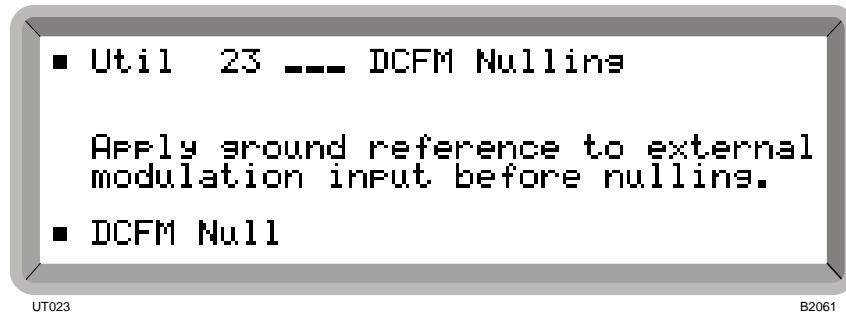

Fig. 4-34 DCFM nulling display
- (1) First of all select external FM from *Util 20: Modulation Mode (Normal)*. Then select *DC* coupling from *Util 30: Modulation Source*.
- (2) Select the *Util 23: DCFM Nulling* utility shown in Fig. 4-34 below.